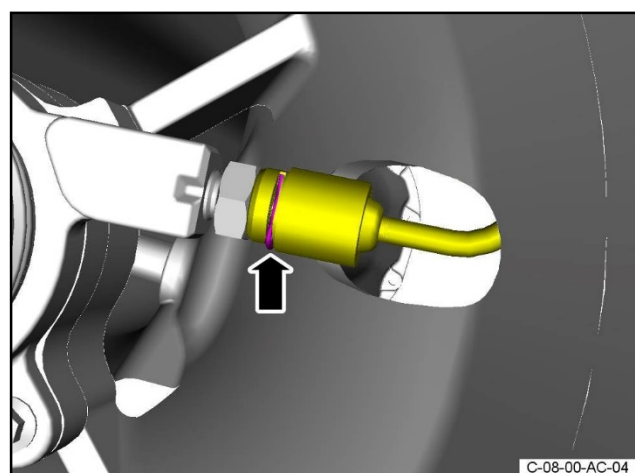

Figure 10
14. Connect the fluid supply pipe to the slave cylinder (refer to Figure 10).